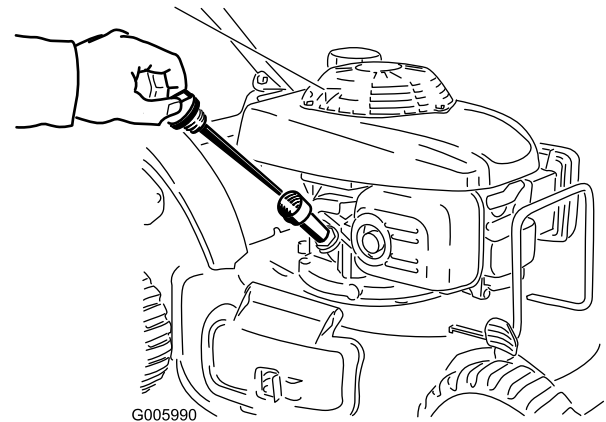

Figure 40
2. Remove the dipstick (Figure 40).
4. **Slowly** pour oil into the oil fill tube, periodically checking the level with the dipstick, until the dipstick indicates that the engine is full as illustrated in Figure 40. **Do not overfill.** (Max. fill: 20 oz. (0.55 l), type: SAE 30W detergent oil with an API service classification of SH, SJ, SL, or higher.)